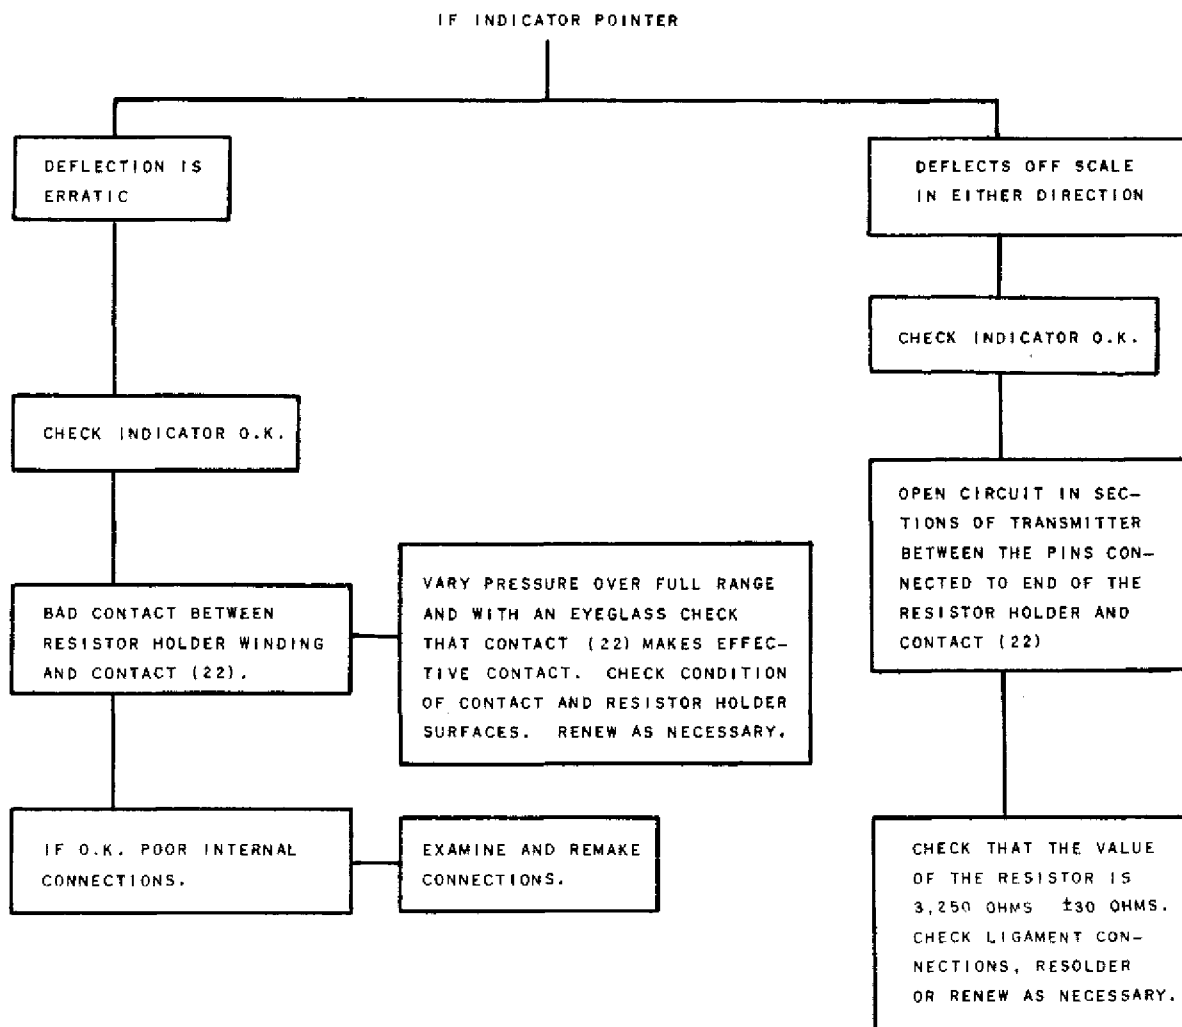

Fig.4. Trouble shooting chart
- (1) The correction of faults will necessitate partial dismantling.
- (2) Refer to the trouble shooting chart given in Fig.4. for correction of faults.
- (3) After correction and re-assembly, the pressure transmitter must be tested as detailed in paragraph 8 (Testing).